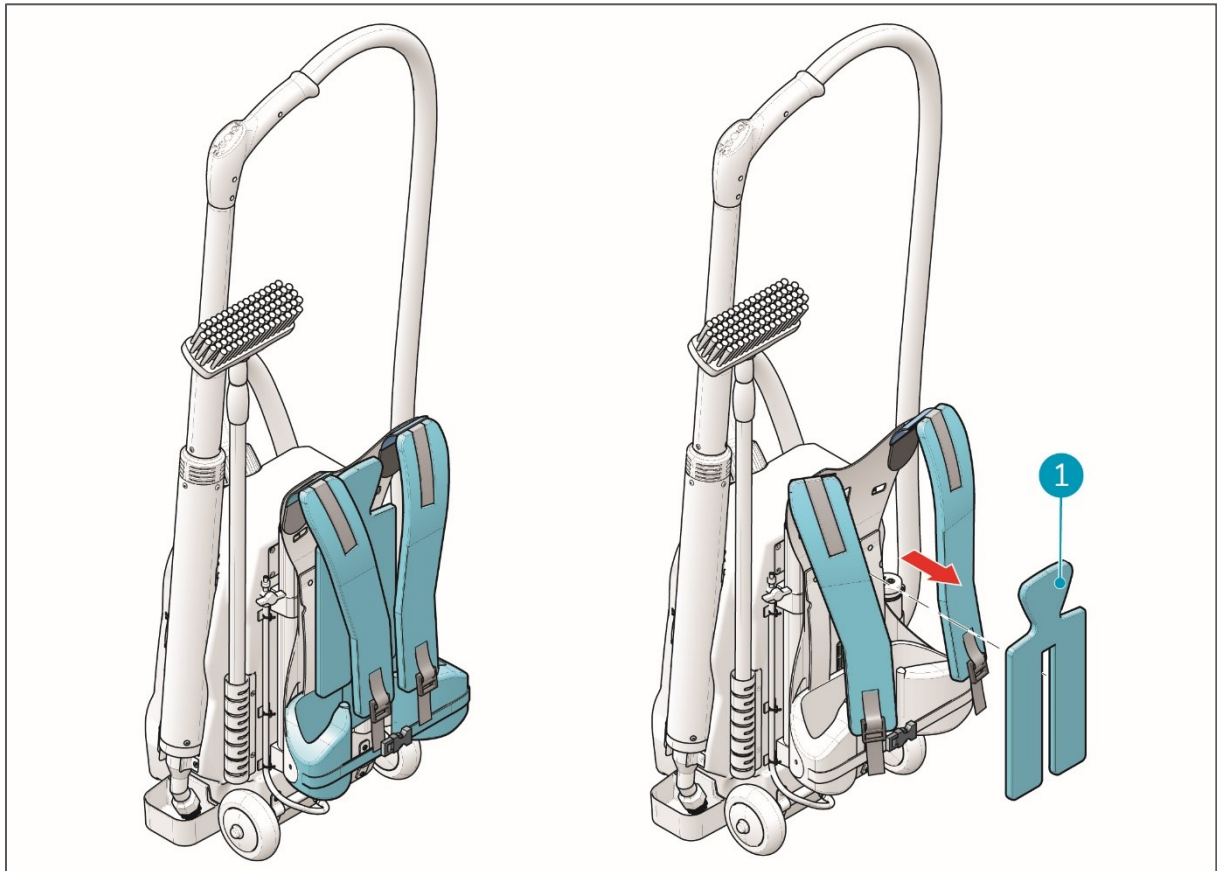

Figure 8
1. Remove padding (fig 8, pos 1) that is attached to the back plate with Velcro.